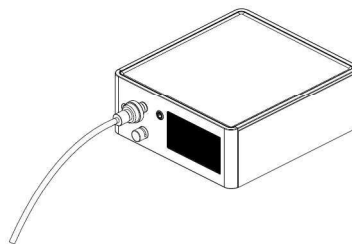

Figure 4-9 The insufflator pipe fitting connects with the insufflator (using filter)
3. Connect the installed pipe fitting to the CO₂ gas injection joint of the product. Guarantee that the interface is well inserted. As shown in Figure 4-9.